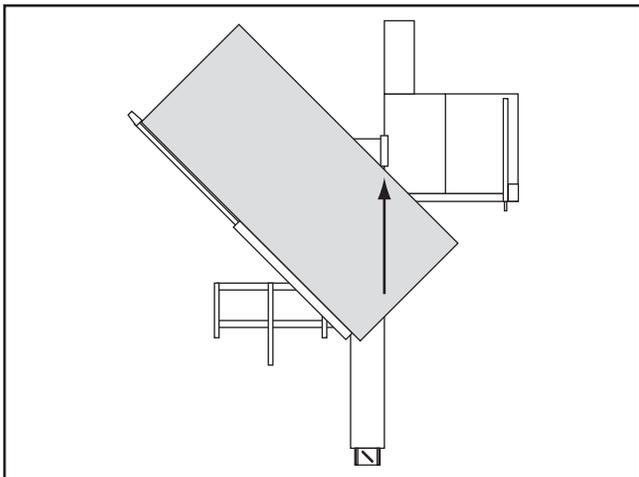

Figure 109. Crosscut fence positioned for miter cuts from 0° to 90°.
—For miter cuts from 0° to 90°, insert the fence pivot stud into the rear hole and angle the fence forward, as shown in **Figure 109**.
5. Position the flip stop for the desired width-of-cut, then load the workpiece onto the table. The set up should look similar to **Figures 109–110**.